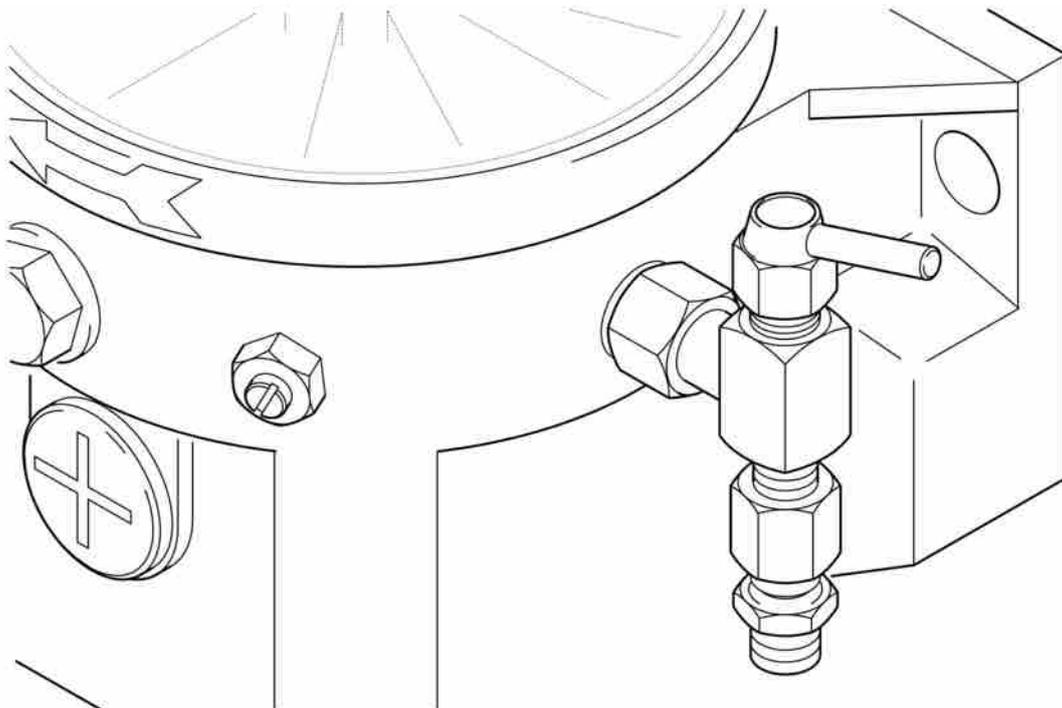

Fig. 25 - Safety valve
- Since the pump is still pumping out lubricant and the distributors have stopped, the lubricant must go somewhere. Pressure in the system increases and the block becomes apparent when lubricant leaks from the safety valve (Fig. 25).